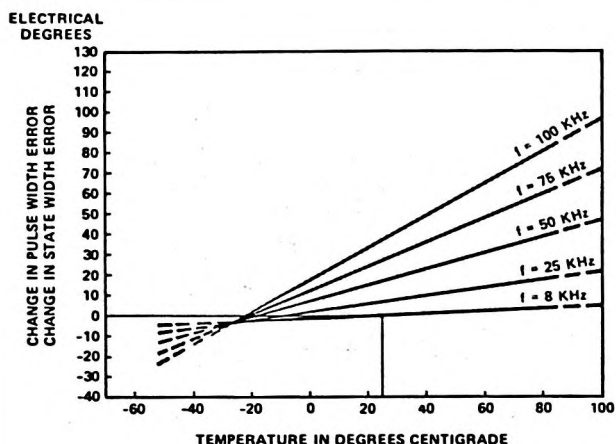

Figure 1. Typical Change in Pulse Width Error or in State Width Error due to Speed and Temperature
- In a properly assembled lot 99% of the units, when run at 25°C and 8 KHz, should exhibit a pulse width error less than 35 electrical degrees, and a state width error less than 45 electrical degrees. To calculate errors at other speeds and temperatures add the values specified in Figures 1 or 2 to the typical values specified under encoding characteristics or to the maximum 99% values specified in this note.